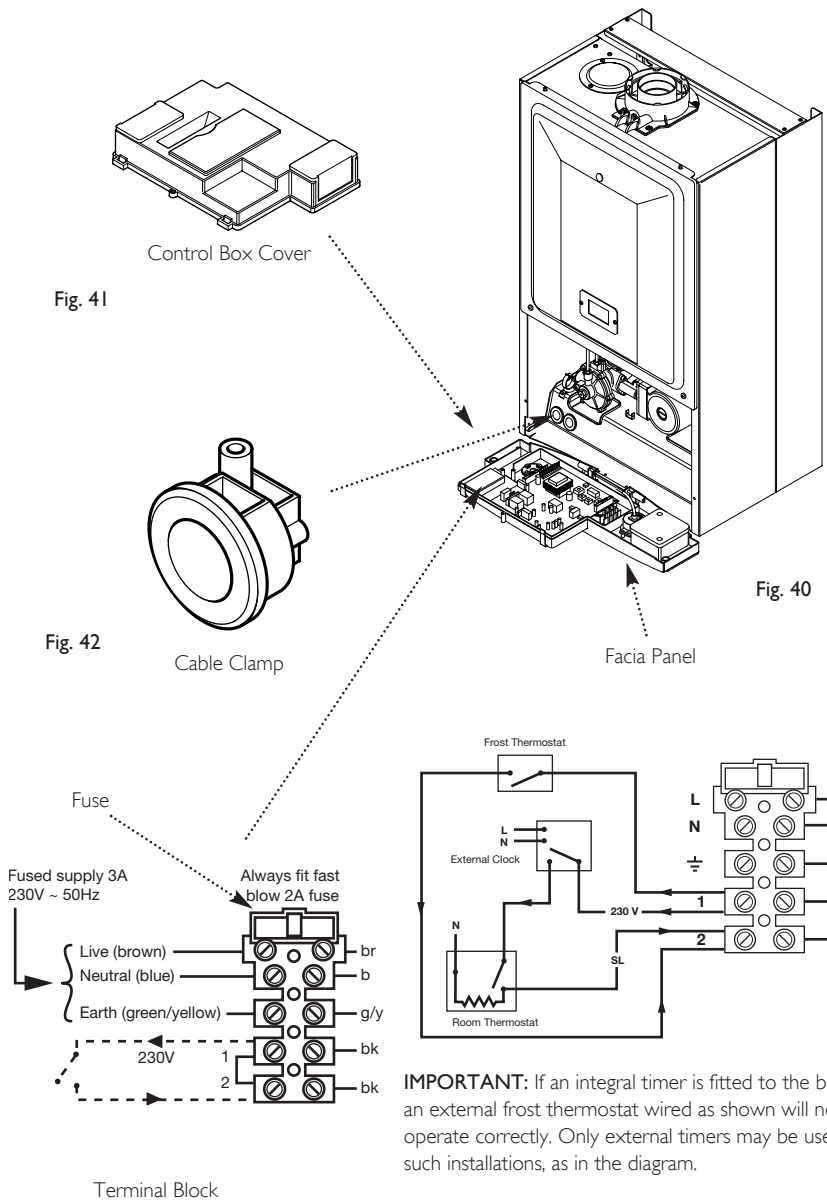

Fig. 43
7. To connect external control(s) remove the link between terminals 1 & 2. The 230V supply at terminal 1 must be connected to the external control. The switched output from the external control must be connected to terminal 2 (Fig. 43).
NOTE: If the room thermostat being used incorporates an anticipator it **MUST** be wired as shown in Fig. 43